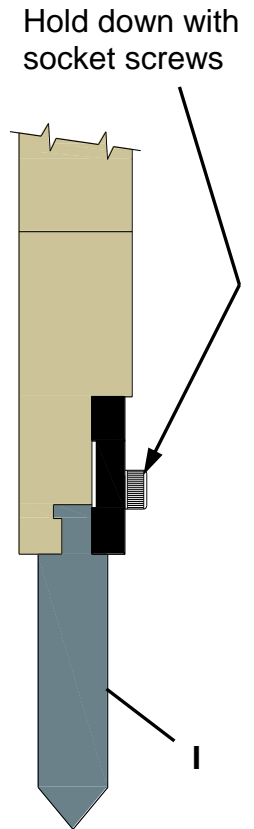

figure 7
3. Loosen the socket head hold down screws enough to slide the die (**I**) out (fig.7).